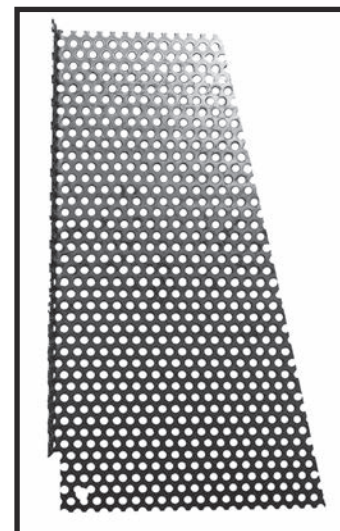
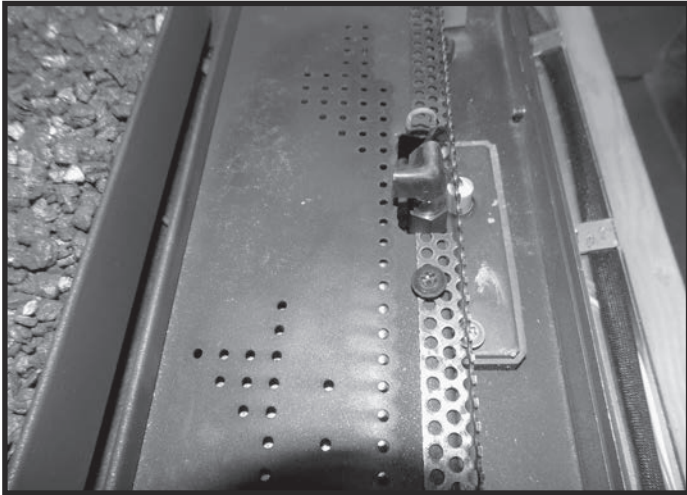
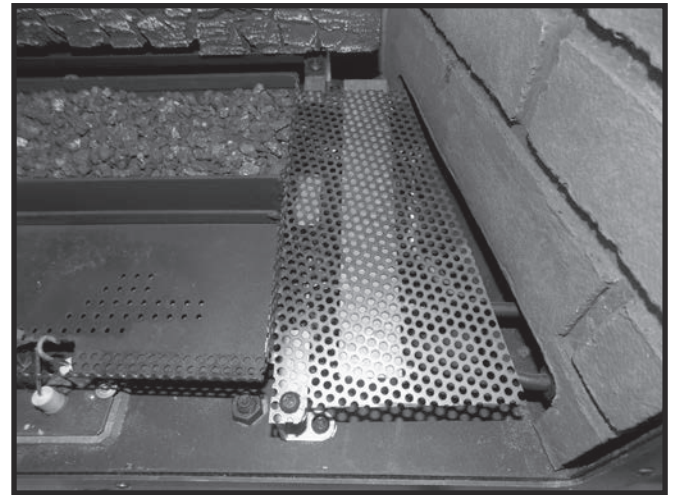

Figure 71: Side mesh guard.
Figure 72: Front mesh guard in place.
Figure 73: Side mesh guard in place.
5. Place the side mesh guard (Figure 71) on the right of the burners and secure with supplied screws (Figure 72).
6. Once the front and side mesh guards are in place (Figure 72 and Figure 73), the log base pieces can be installed.